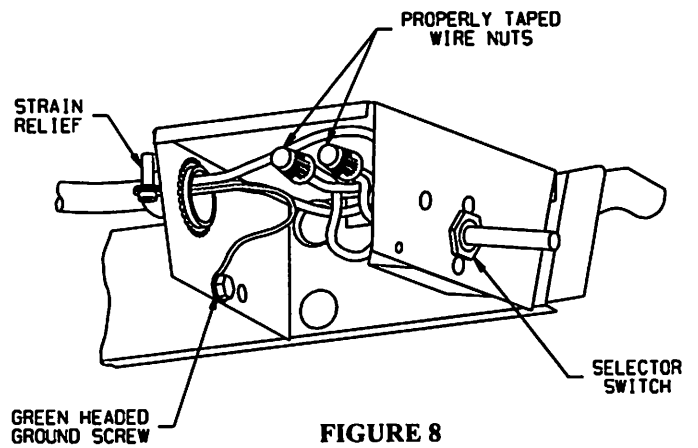

FIGURE 8
- M. Connect the power line to the black and white pigtail wires found in the control box using two wire nuts. **IMPORTANT** - Connect black wire to black wire and white wire to white wire. Install the ground wire (green to bare copper) to the green headed screw in the selector switch control box. Using a U.L. approved electricians tape, secure the wire nuts to the wires in a workmanlike manner (See Figure 8).